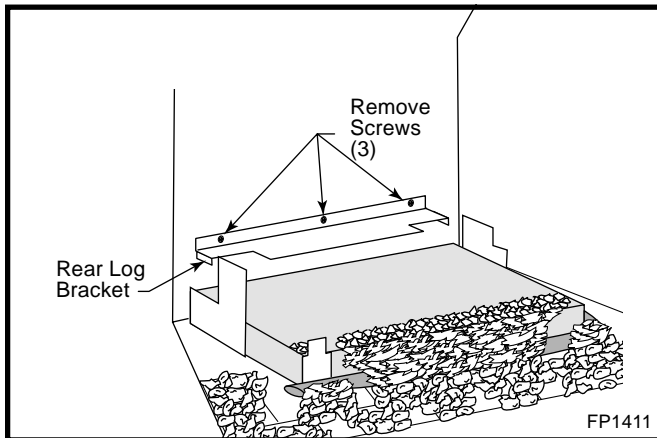

Fig. 37 Remove rear log bracket.
4. Remove the rear log bracket by removing three (3) screws. On some models you may be able to loosen the screws and slide bracket to the left and out. (Fig. 37)